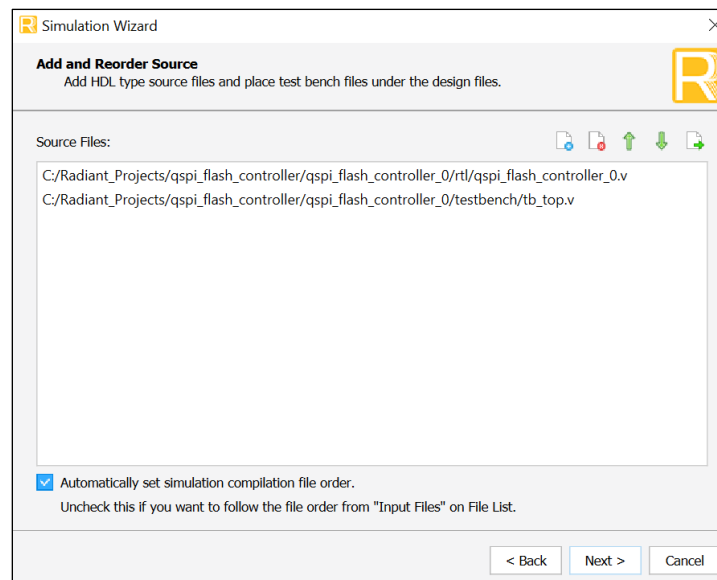

Figure 7.6: Adding Re-Ordering Source
2. Enter a project name and click **Next** to open the **Add and Reorder Source** window as shown in Figure 7.6.